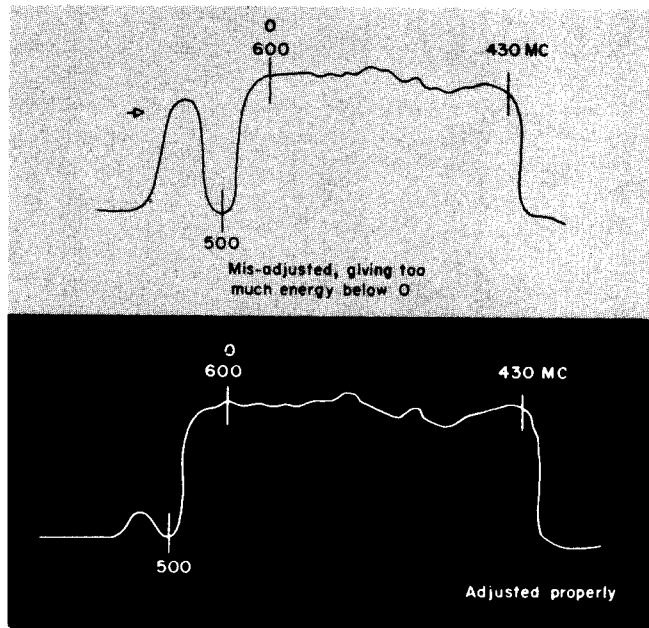

Figure 67 500 MC Trap Adjustment
- h. Referring to Figure 62 adjust C1, C2, and C3 for flattest VHF response consistent with max. amplitude, being careful not to let either low or high frequency end drop off. C3 capacitor should be on the min. side while C2 capacitor should be on the max. side. While adjusting these capacitors, it is desirable to tune the center frequency dial to see the response on the lower side of zero beat, there should not be too much energy here. See Figure 67.